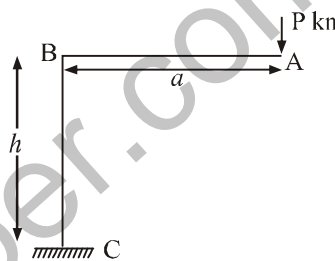

Figure 4
8. A rigid frame ABC as shown in figure 4 carries a concentrated vertical load P kN at point A. Find the vertical and horizontal deflection of point A. Assume EI- constant.